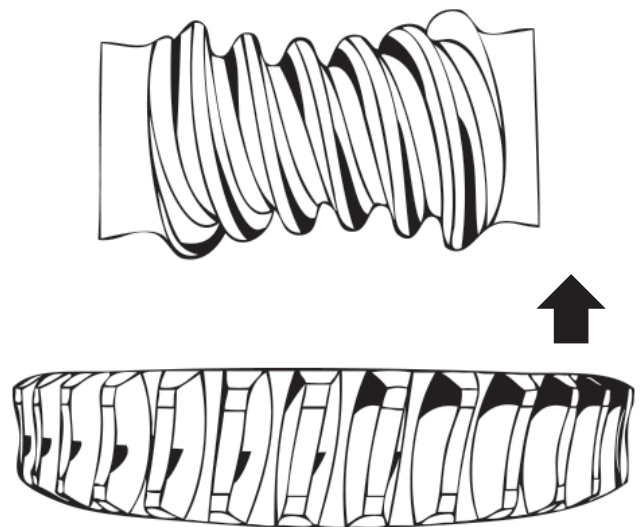

Figure 8
8. If contact is similar to figures 8 or 12, the gear is off side position. Move the gear in the direction indicated by the arrow. If the contact pattern is opposite to that shown, move the gear in the opposite direction.